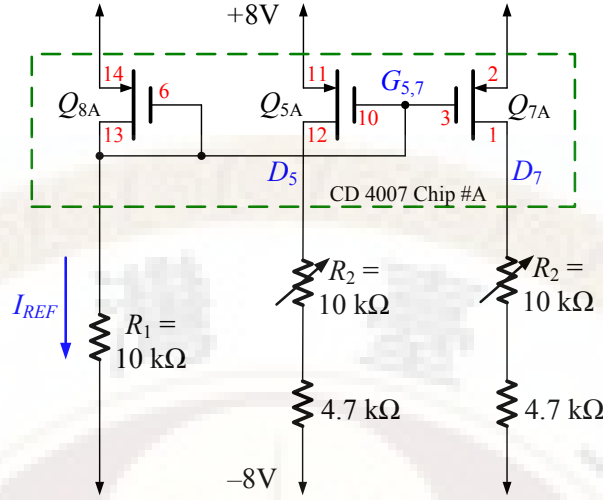

Fig. 3 DC Analysis of the current mirror ( $Q_5$ ,  $Q_7$ ,  $Q_8$ )
- (1) DC Analysis of the current mirror ( $Q_5, Q_7, Q_8$ )
- a. In Fig. 3, adjust VR ( $R_2$ ) 10 k $\Omega$  and check whether ( $Q_5, Q_7, Q_8$ ) are all able to enter saturation region, that is,  $V_{GD5,7,8} \geq V_T (-1.8\text{V})$ . If one of them is not so, change the chip of CD4007 #A and recheck again.